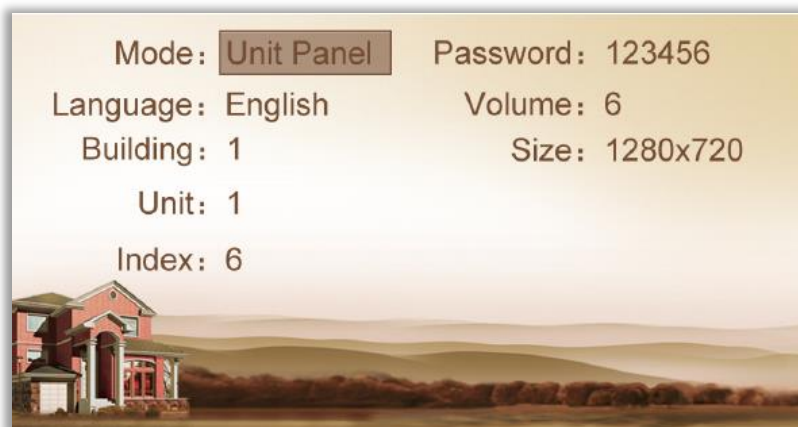

Figure 15: Device Mode interface of the Outdoor Panel
Press the key “#” to go to settings. The LCD screen will display as shown in Figure 15. Press the number key 2 or the icon ▲ to page up, and press the number key 8 or the icon ▼ to page down. If the device is used as a unit panel, it can only call the indoor monitors in this unit. If the device is used as a wall panel, it can call all the indoor monitors in the whole community.